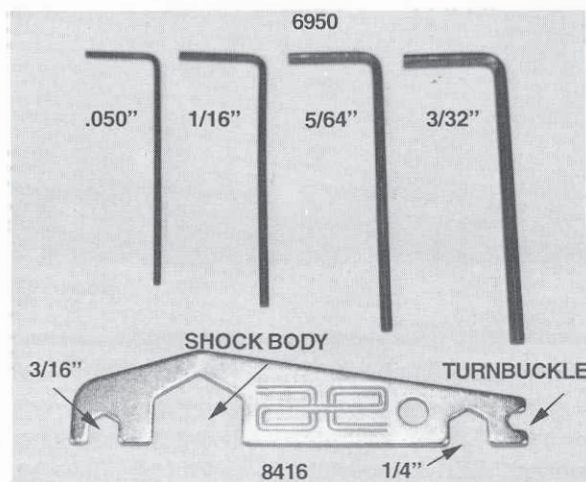
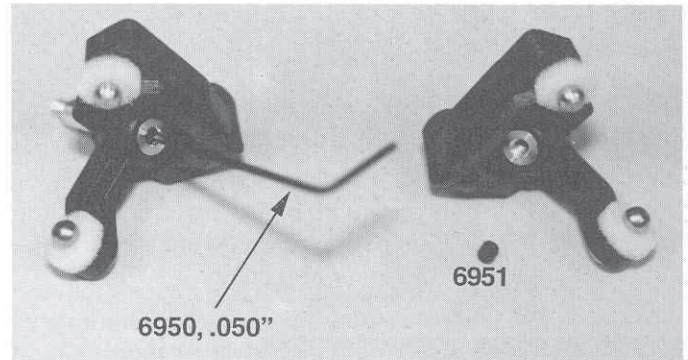

Fig. 1
Fig. 9
❑ **Fig. 1** Before we start to assemble the front end, remove the #8416 shock/turnbuckle wrench and the #6950 tool bag (which contains the four Allen wrenches) from the kit master bag. Set them aside for now; we will be using these as we go through the assembly.
□ **Fig. 9** 1) Look into bag #8-1 again and take out the two #6951 4-40 x 1/8" socket set screws. 2) Now we need to open up the #6950 tool bag we took out in fig. 1. Inside you will find four different size "L" shaped Allen wrenches. The smallest one will be the .050" Allen wrench which we need for this step. **Note: An Associated #6957 .050" Allen driver or similar driver would make this assembly easier and quicker.** 3) If you rotate the steering block in the carrier block so that the two ball end are as far apart as possible, then it will expose the back side of the axle which has a small threaded hole in it. Use your .050" Allen wrench to install a set screw into each axle, then 4) tighten the set screw against the kingpin. 5) Make sure the steering block pivots smoothly inside each of the carrier blocks.